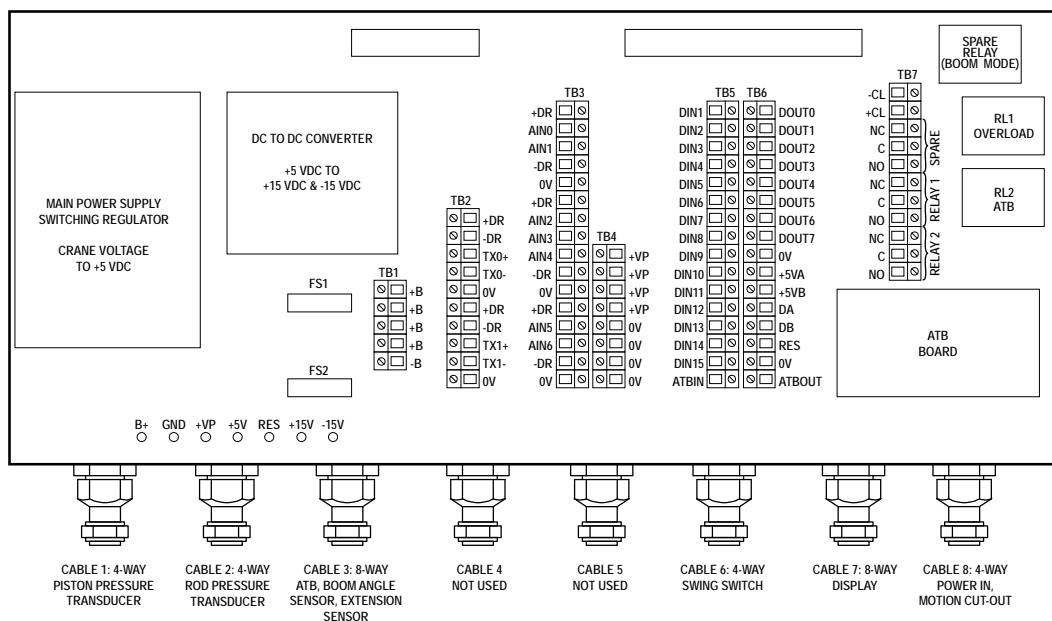

Figure 19 - Termination Board Layout
2. Label each cable. Refer to Figure 19 on page 29. Then label each wire with its terminal location. Remove cable from gland entry. Repeat with each cable.